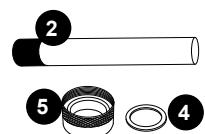

FIGURE 7
- Remove the quartz seal compression nut (5) by turning it counterclockwise, Figure 5. Use a pair of channel-lock pliers if needed, Figure 6. You will notice that there is a stainless steel compression washer (4) which slides over the quartz tube, save the washer (4) for later use, Figure 7.
- Now you are ready to clean or replace the quartz tube (2). For cleaning the quartz tube (2), follow steps 7 and 8 then proceed from step 9. For replacing quartz tube (2), skip steps 7 and 8 and proceed from step 9.